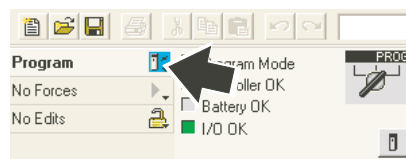

Figure 4.3.21j Click on 'Program' icon
8. Left click on the 'Program' icon (figure 4.3.21j) and select 'Go OffLine' from the menu which appears.